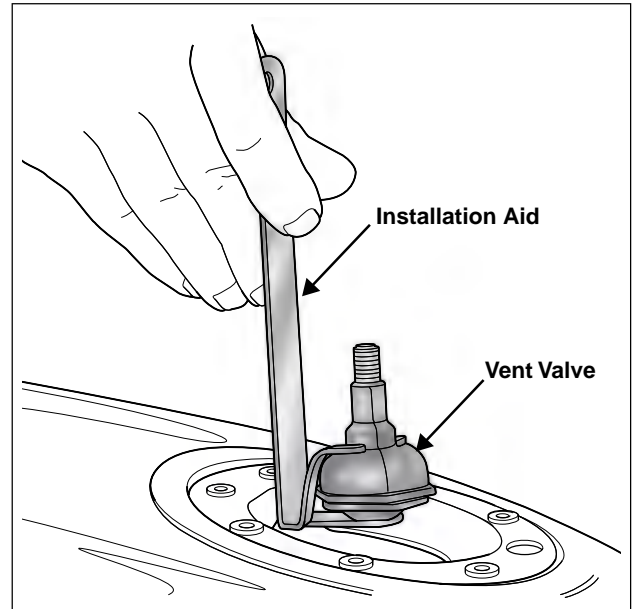

Figure 4-86. Installing Fuel Tank Vent
2. See Figure 4-86. Using the fuel vent valve installation aid, lower the fuel tank vent valve into the fuel tank through the fuel filler neck.